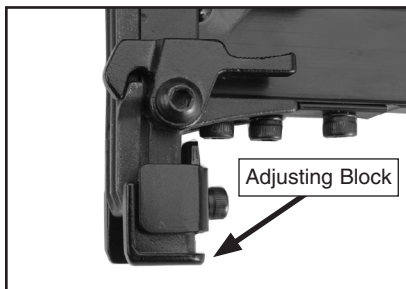

Figure 8. Adjusting block down.
- Move the adjusting block (**Figure 8**) up or down to increase or decrease staple penetration.
- If you want to decrease the staple depth, then move the adjusting block down, away from the nose as shown in **Figure 8**.